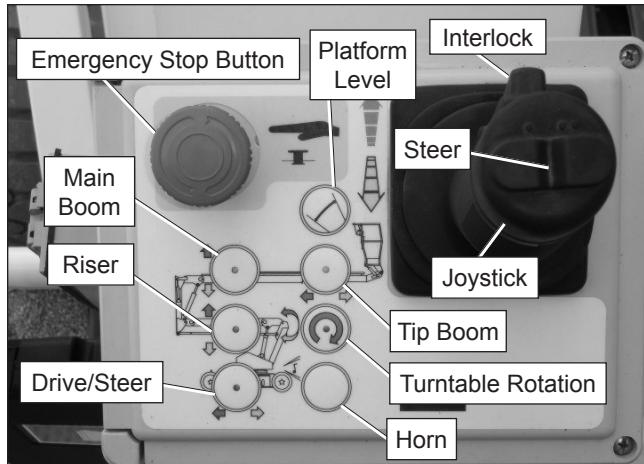

Figure 8.5 – Upper Controls
- At the upper controls pull the emergency stop button outward (refer to Figure 8.5).
- Check to see that the battery condition indicator displays a power reading at the upper controls (refer to Figure 8.5)